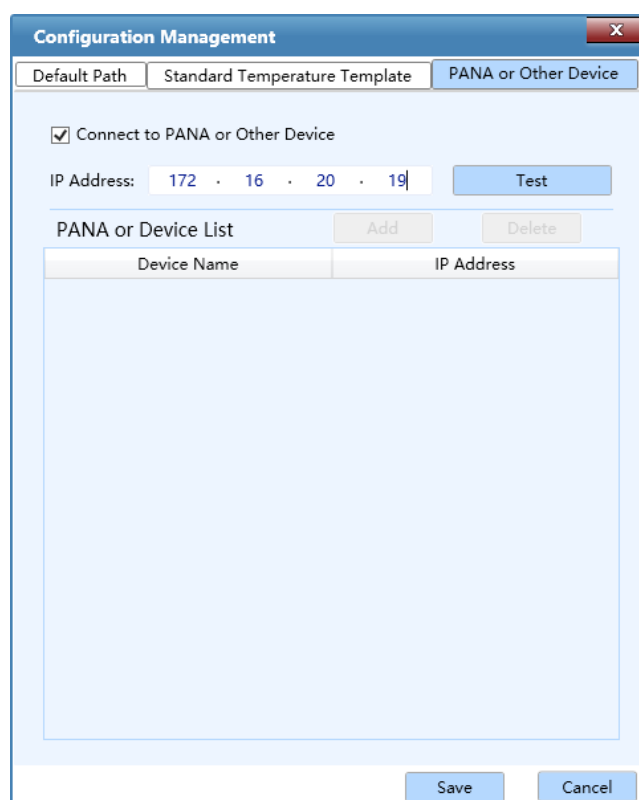

Figure D-3.8c. Configuration Management Interface - PANA Tab
- **PANA or Other Device** tab: Gentier instrument can be connected with PANA nucleic acid workstation of our company, and experiment can be created according to the PCR reaction system established by PANA nucleic acid workstation, as shown in figure D-3.8c.